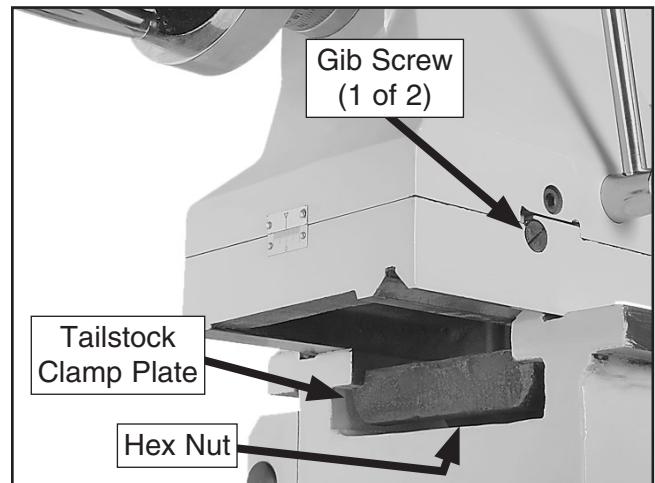

Figure 89. Tailstock gib screw (1 of 2).
The tailstock gib is adjusted in the same manner as the cross and compound slide gibs (see **Figure 89**).
2. Move the tailstock to a location on the bedway so that you can access the clamping plate hex nut from underneath the tailstock (see **Figure 89**).